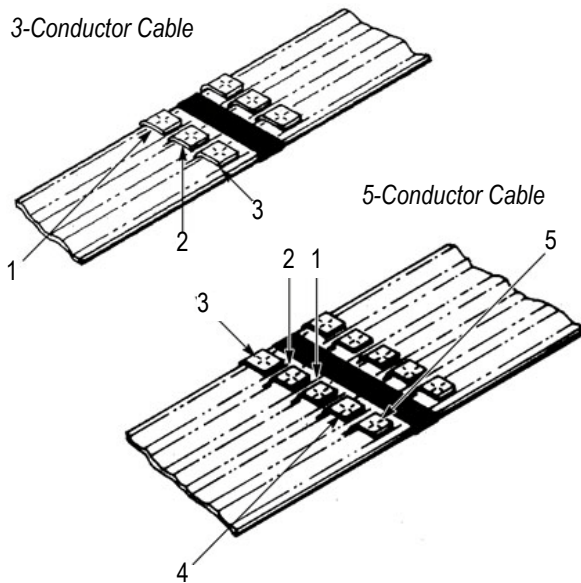

Figure 3
5. Position a splice connector around the appropriate conductor on each cable starting with position 1 of the crimping order shown in Figure 3. Then using Hand Tool 91392-1, crimp each connector as follows.
- c. Position and crimp the remaining splice connectors following the crimping order shown in Figure 3.